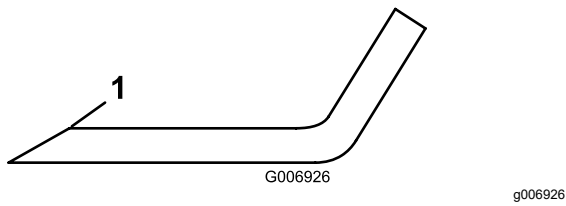

Figure 73
3. Inspect the cutting edges of all blades. Sharpen the cutting edges if they are dull or nicked. Sharpen only the top of the cutting edge and maintain the original cutting angle to make sure of sharpness (Figure 73). The blade will remain balanced if the same amount of metal is removed from both cutting edges.